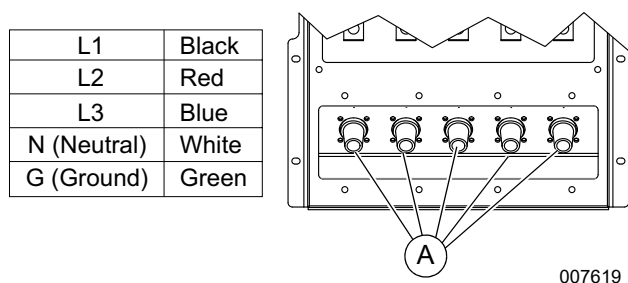

Figure 3-8. Cam Lock Connections
See Figure 3-8. The unit may be equipped with cam lock connections (A) located below the receptacles. These receptacles provide connection points to attach external loads to the generator. A decal below the cam lock connections details the proper connections for selected voltages.